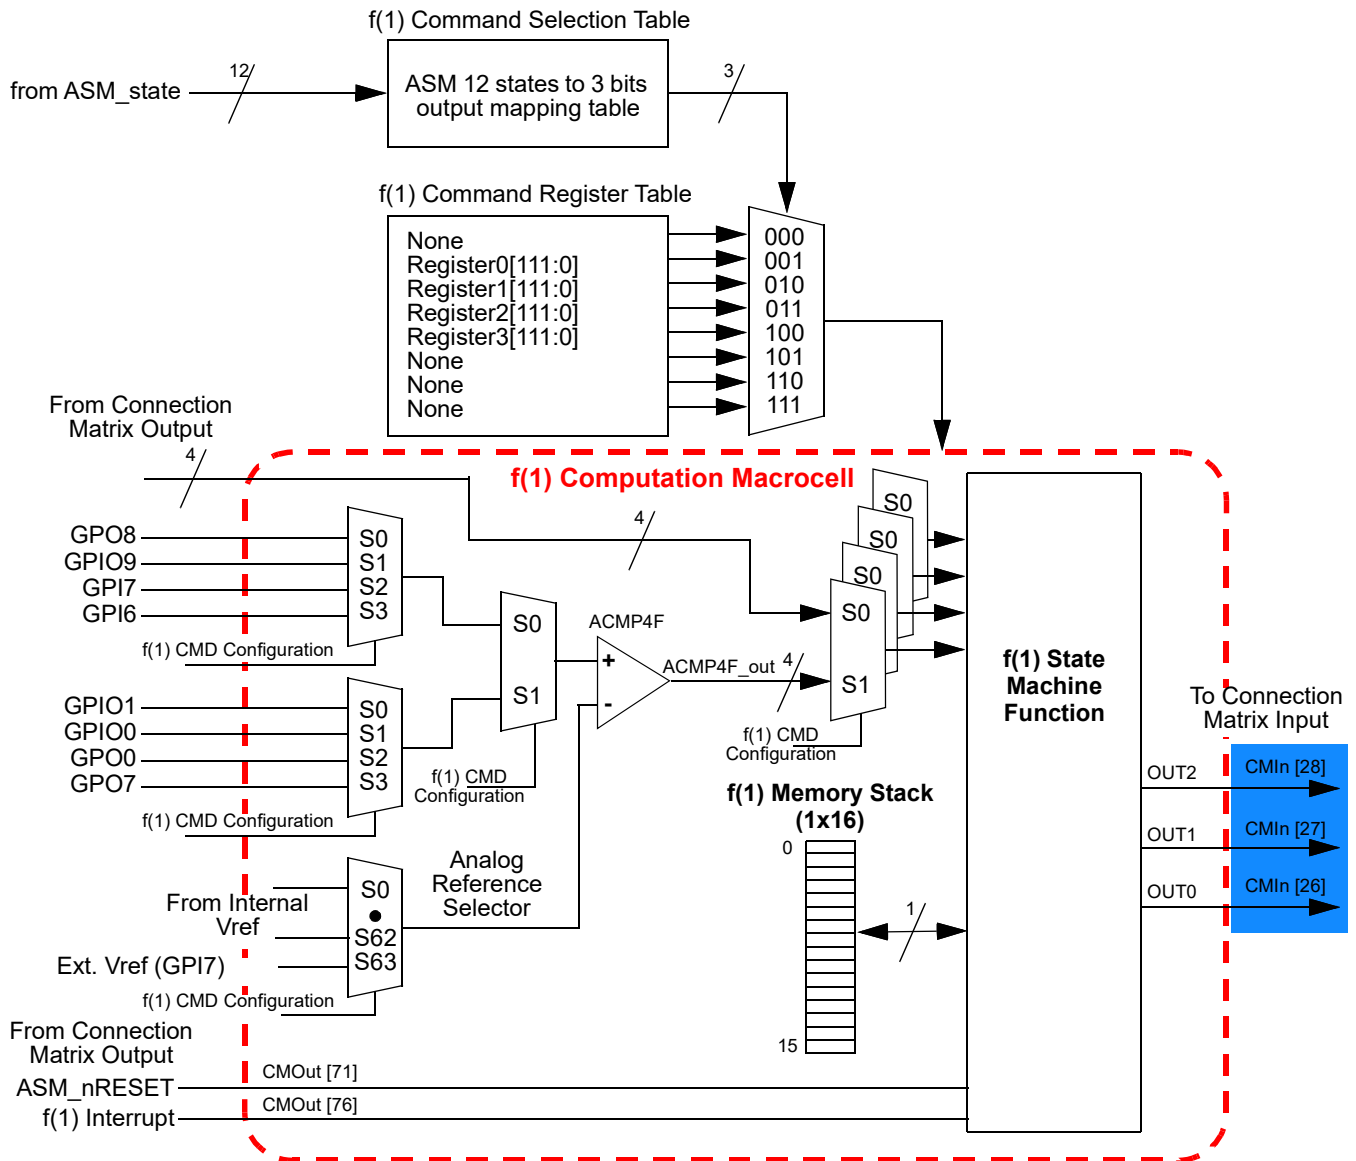

Figure 127: f(1) Computation Macrocell Output Signals
17.4 F(1) COMPUTATION MACROCELL OUTPUT SIGNALS
The f(1) Computation Macrocell has 3 digital output signals that go to the Connection Matrix, and from there can be routed to other internal macrocells or pins. These signals are shown in Figure 127, highlighted in blue. The state of these output signals are under user control, and are changed based on the Output commands.